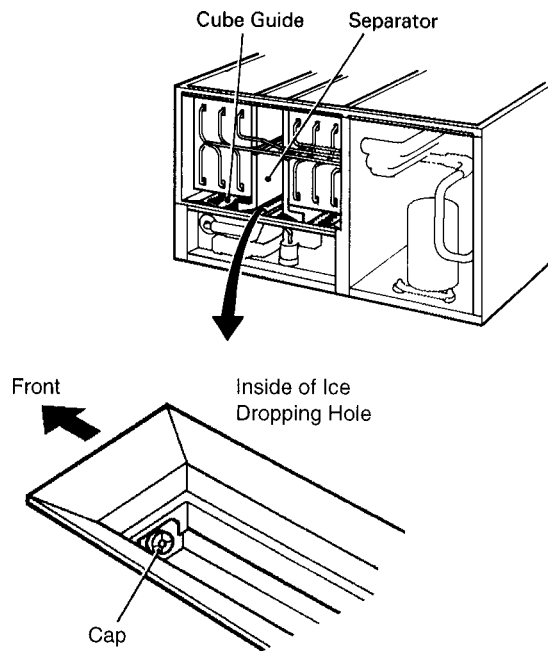

Fig. 12
- 8) Remove the Insulation Panel. Remove the Cap located on the front bottom part of the Ice Dropping Hole. Drain the Water Tank to flush any loose debris. See Fig. 12.